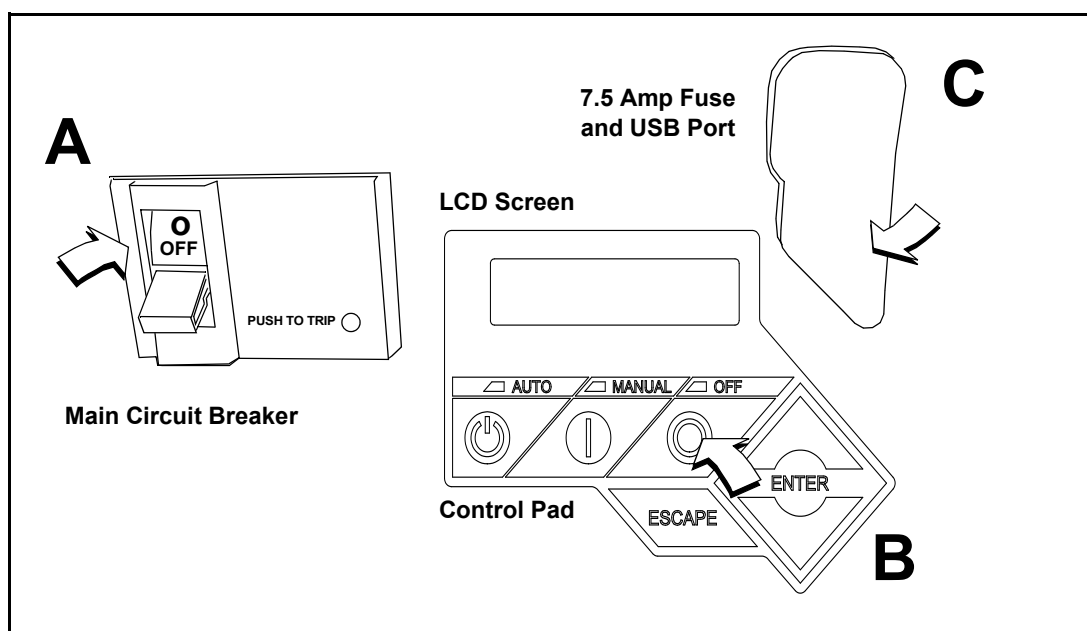

Figure 5-6. Generator Control Panel
2. Move the Main Circuit Breaker switch down to the OFF (Open) position. See A of Figure 5-6.
3. Press OFF on the control pad. A red LED illuminates to confirm that the system is in the OFF mode. See B of Figure 5-6.
5. Pull up rubber flap covering fuse holder and remove 7.5 amp fuse. See C of Figure 5-6.